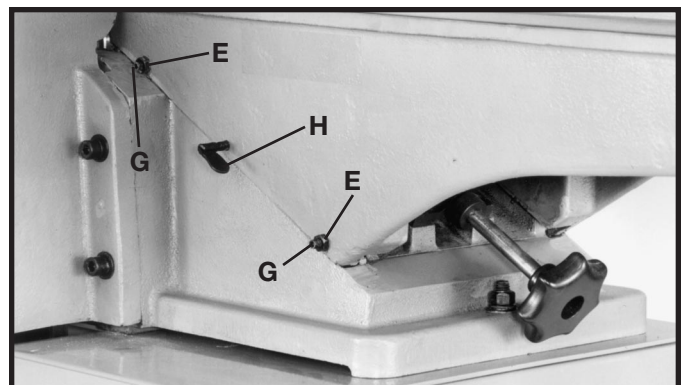

Fig. 49
2. To adjust the outfeed table, loosen locking lever (H) Fig. 49. Loosen two locknuts (E) and tighten or loosen two adjustment screws (G) as necessary. **NOTE:** Adjust the lower adjustment screw first and as you proceed to the upper adjustment screw, gently raise the outboard edge of the table. This will offset any tendency for the table casting to “droop or sag” and permit the gib to be adjusted to the proper fit to the upper adjustment screws. Tighten two locknuts (E) and locking lever (H).